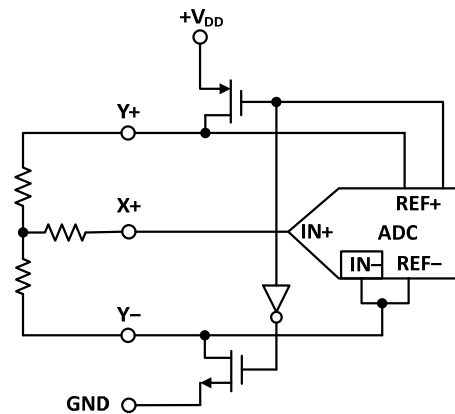

Figure 1: Simplified diagram of differential reference (Y switches enabled, X+ is analog input).
See Figure 1, by using the differential mode, the +REF and -REF inputs are connected directly to Y+ and Y-, respectively. This makes the A/D converter ratiometric. The result of the conversion is always a percentage of the external reference, regardless of how it changes in relation to the on-resistance of the internal switches.
(1) Reference voltage at converter: +REF - (-REF). See Figure 1.
(2) Input voltage at converter, after multiplexer: +IN - (-IN). See Figure 1.